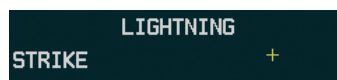

Figure 6-20 SiriusXM Lightning Legend
- 1) Select the **MAP** Softkey (for the PFD Inset Map, press the **INSET** Softkey). This step is not necessary on the Weather Data Link (XM) Page.
- 2) Select the **XM LTNG** Softkey (**LTNG** Softkey on the Weather Data Link (XM) Page).
To display the XM Lightning legend on the Weather Data Link (XM) Page (Figure 6-20), select the **LEGEND** Softkey when XM Lightning is selected for display.